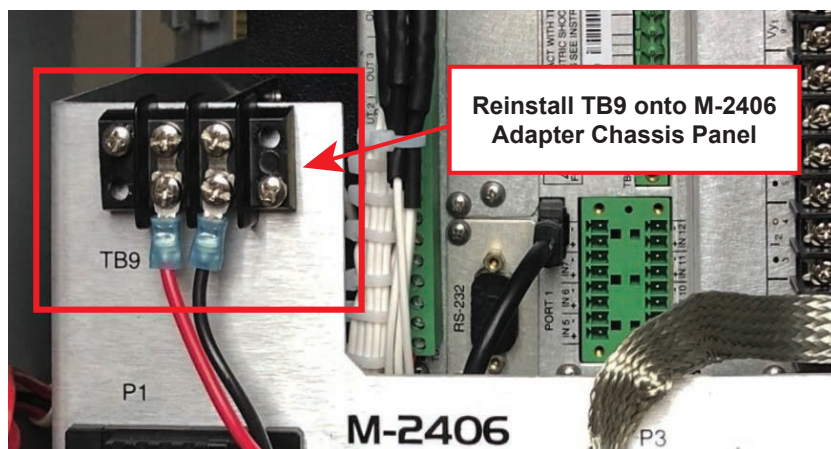

Figure 21 Eaton Cooper Terminal Block 9 Installed onto M-2406 Adapter Chassis
3. Reinstall Terminal Block 9 onto the M-2406 Adapter Chassis, lining up with the two pre-drilled holes on the back of the chassis (Figure 21). Use the screws saved from the removal of TB9 to secure the terminal block.